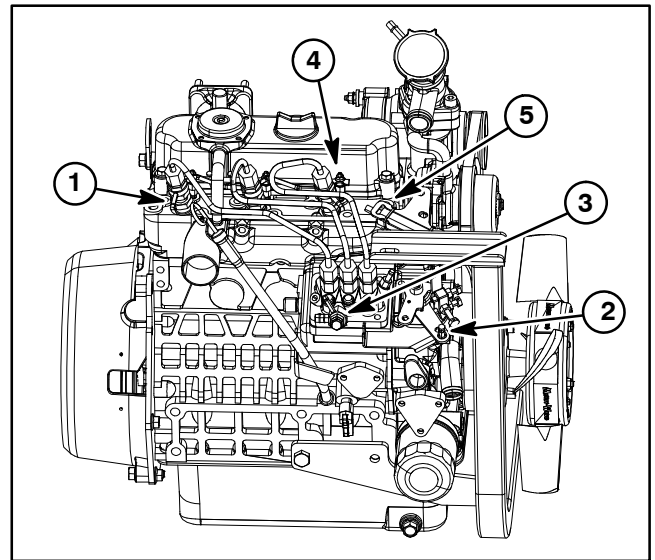

Figure 13
6. Disconnect fuel supply hose from the injector pump and fuel return hose from the #3 injector (Fig. 13). Drain any fuel trapped in the hoses into a suitable container. Plug hoses and position them away from engine assembly.
- A. Negative battery cable (item 4) and wire harness ground (item 2) that are secured to the engine at the lift hook above the bell housing.
- B. Fuel solenoid (Fig. 13).
- C. Glow plug bus (Fig. 13).